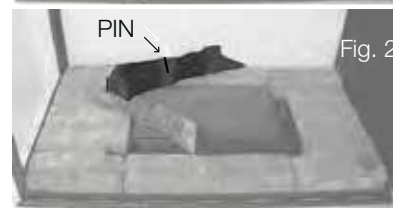

Fig. 2
3. Place log #2 onto the pin located in the log #1, it should rest in the middle of the left side hearth pad as shown in Figure 2. Place one pin into the middle of log #2 (**FIG.2**).